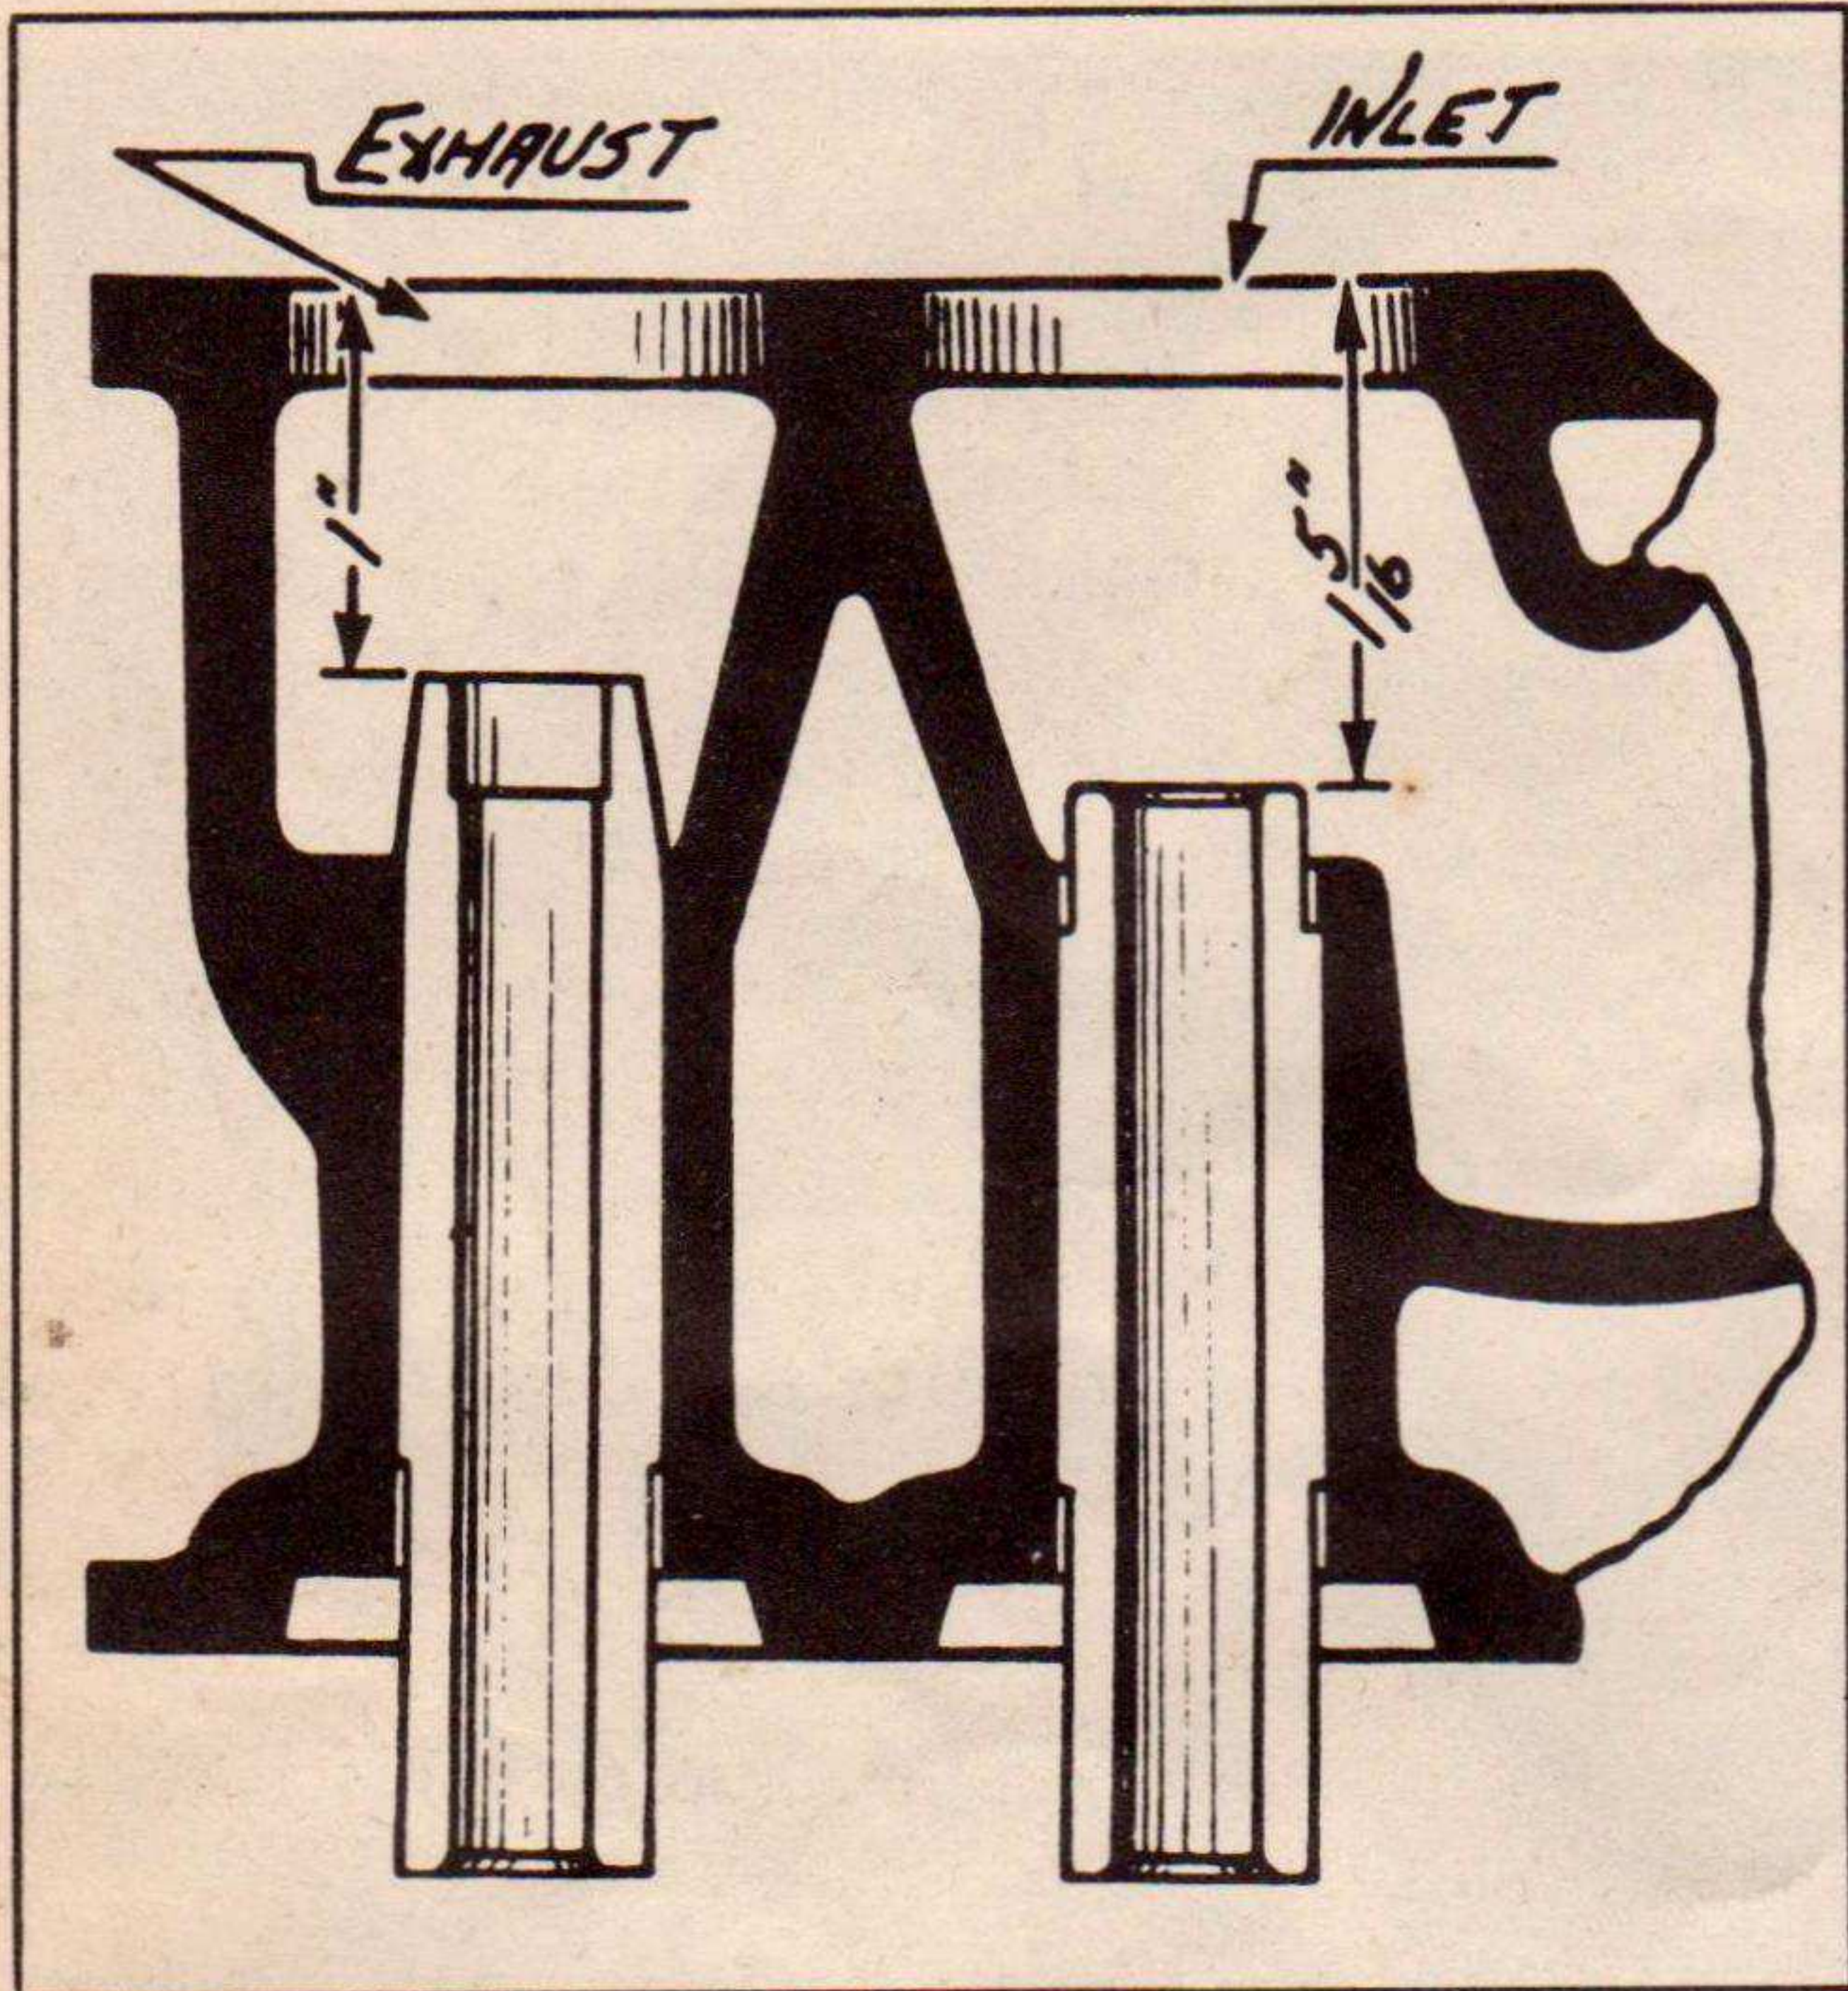

FIG. 21 POSITION OF VALVE GUIDES
(3) The exhaust valve guide is installed in the cylinder block so that there will be a distance of 1" from the top of the guide to the top of the block. The intake valve guide is set at 1-5/16" from the top of the valve guide to the top of the block, (Fig. 21).
(4) The valve tappet clearance in the guide should be .0005" to .002". It is advisable to check the clearance of the valve tappet by moving it back and forth in the guide. If the clearance seems to be excessive, it might be necessary to install a new valve tappet. This operation is covered in this section under paragraph 29.